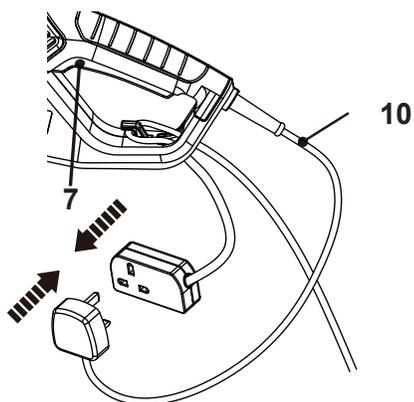

Fig.3
3. Connect the power cord (10) to the socket of the extension cord (Fig. 3).